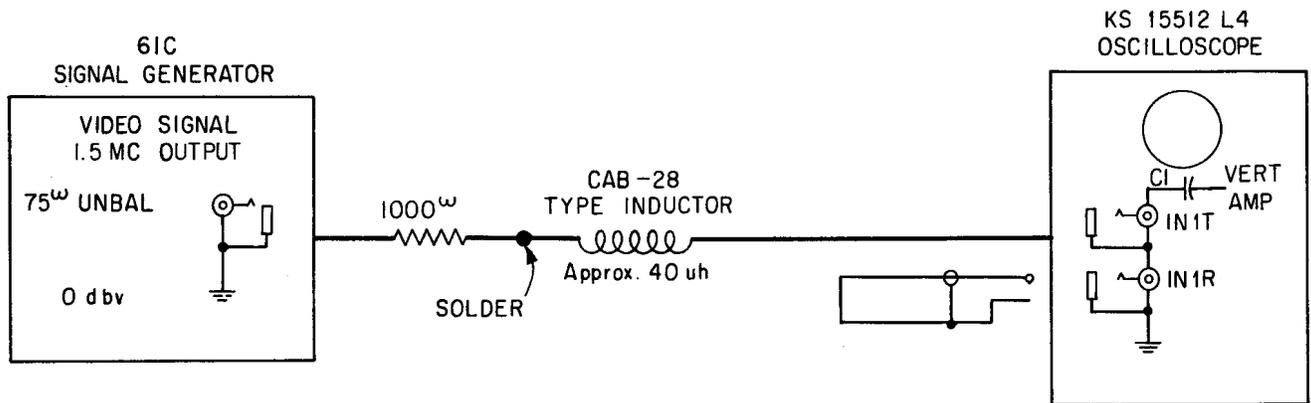

Fig. 3 - Adjusting Input Attenuator
- (a) In order to form a series resonance circuit with the oscilloscope input capacity, tie a CAB type 28 coil (slug approximately mid-way in coil form) and 1000-ohm resistor to the Front Tip jack, IN-1-T, of the Oscilloscope Vertical Amplifier, as shown in Fig. 3. Short the Front Ring jack IN-1-R, and leave the IN-2-T jack unterminated.